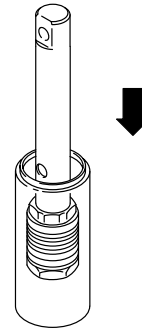

Fig. 32 02575
10. Carefully slide the piston assembly into the top of the sleeve. See Fig. 32.